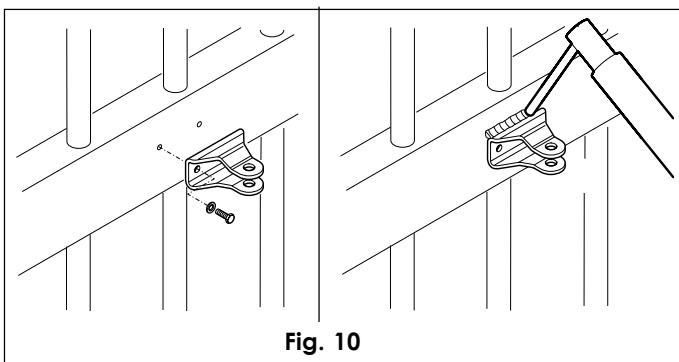

Fig. 10
- The fitting can be either welded directly to the leaf, or screwed on, using the threaded inserts (Fig.10).